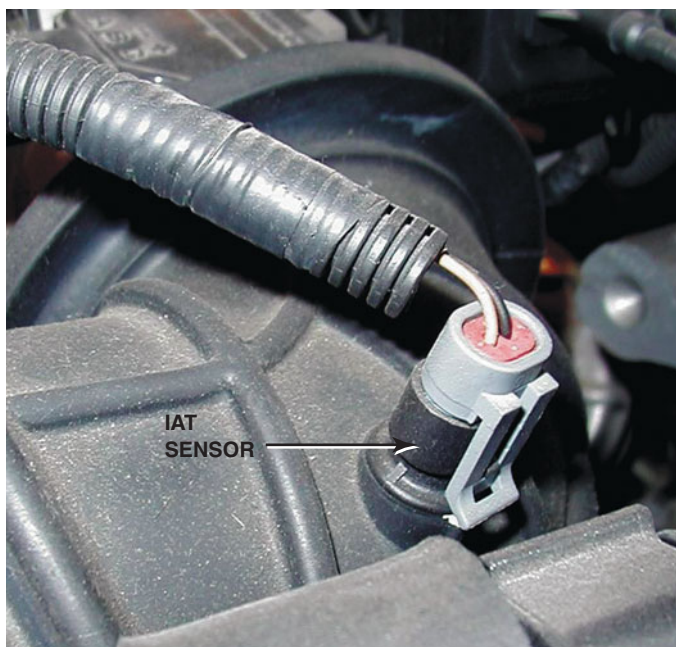

FIGURE 13-8 The IAT sensor on this General Motors 3800 V-6 engine is in the air passage duct between the air cleaner housing and the throttle body.
- In the air duct between the air filter and the throttle body, as shown in ● **FIGURE 13-8**